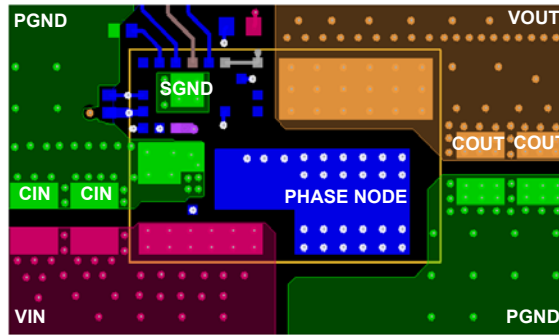
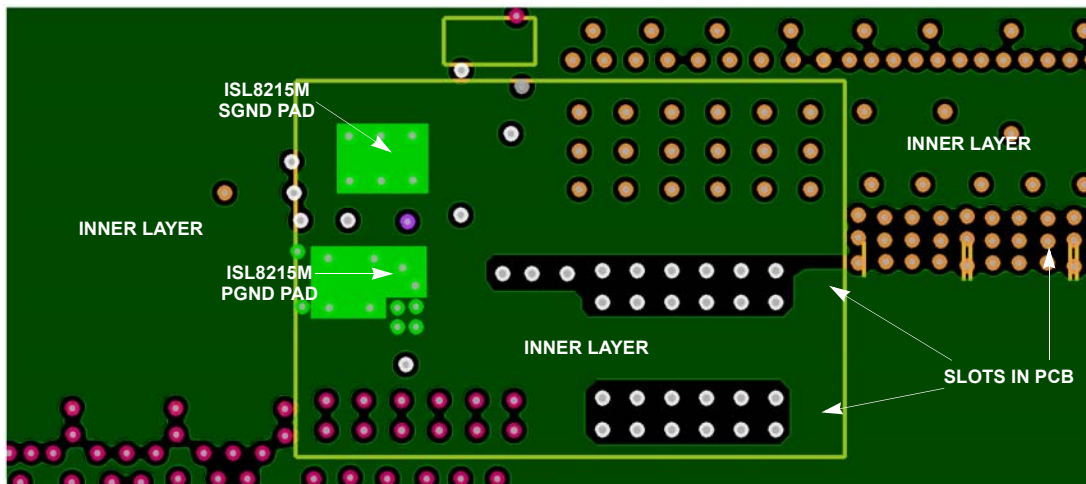

Figure 46. Layout Example - Top Layer
Figure 48. Layout Example - SGND is Connected to PGND Through Internal Layer
- (1) Place the input capacitors and high frequency decoupling ceramic capacitors between VIN and PGND, as close to the module as possible. The loop formed by the input capacitor, VIN pad, and PGND must be as small as possible to minimize the high frequency noise. The output capacitors should be placed close to the load. Use short, wide copper planes to connect the output capacitors to the load for avoiding any parasitic inductances and resistances. An illustrative layout example is shown in Figures 46 and 47.
- (2) VIN, VOUT, and PGND should use large copper planes to minimize conduction loss and thermal stress. Use enough vias to connect the power planes in different layers.
- (3) Use full ground planes in the internal layers (underneath the module) with shared SGND and PGND to simplify the layout design. It is recommended to use slots, as shown in Figure 48 on page 29 to ensure that the switching current avoids the SGND pad of the module. It is recommended to use as much GND plane as possible for the layer directly above the bottom layer (containing components like input caps, output caps, etc). Use the top and bottom layer to route EN, VCC, and PGOOD signals.
- (4) For a switching frequency of 300kHz and a 42V input, connect a 4.02Ω 1206 resistor and a 270pF 100V X7R 0603 capacitor in series from PH to VIN. De-rate the resistor size for switching frequencies higher than 300kHz. Calculate the power dissipated in resistor R5 (P_{cal}) by using the formula $C \cdot V^2 \cdot f$, where,